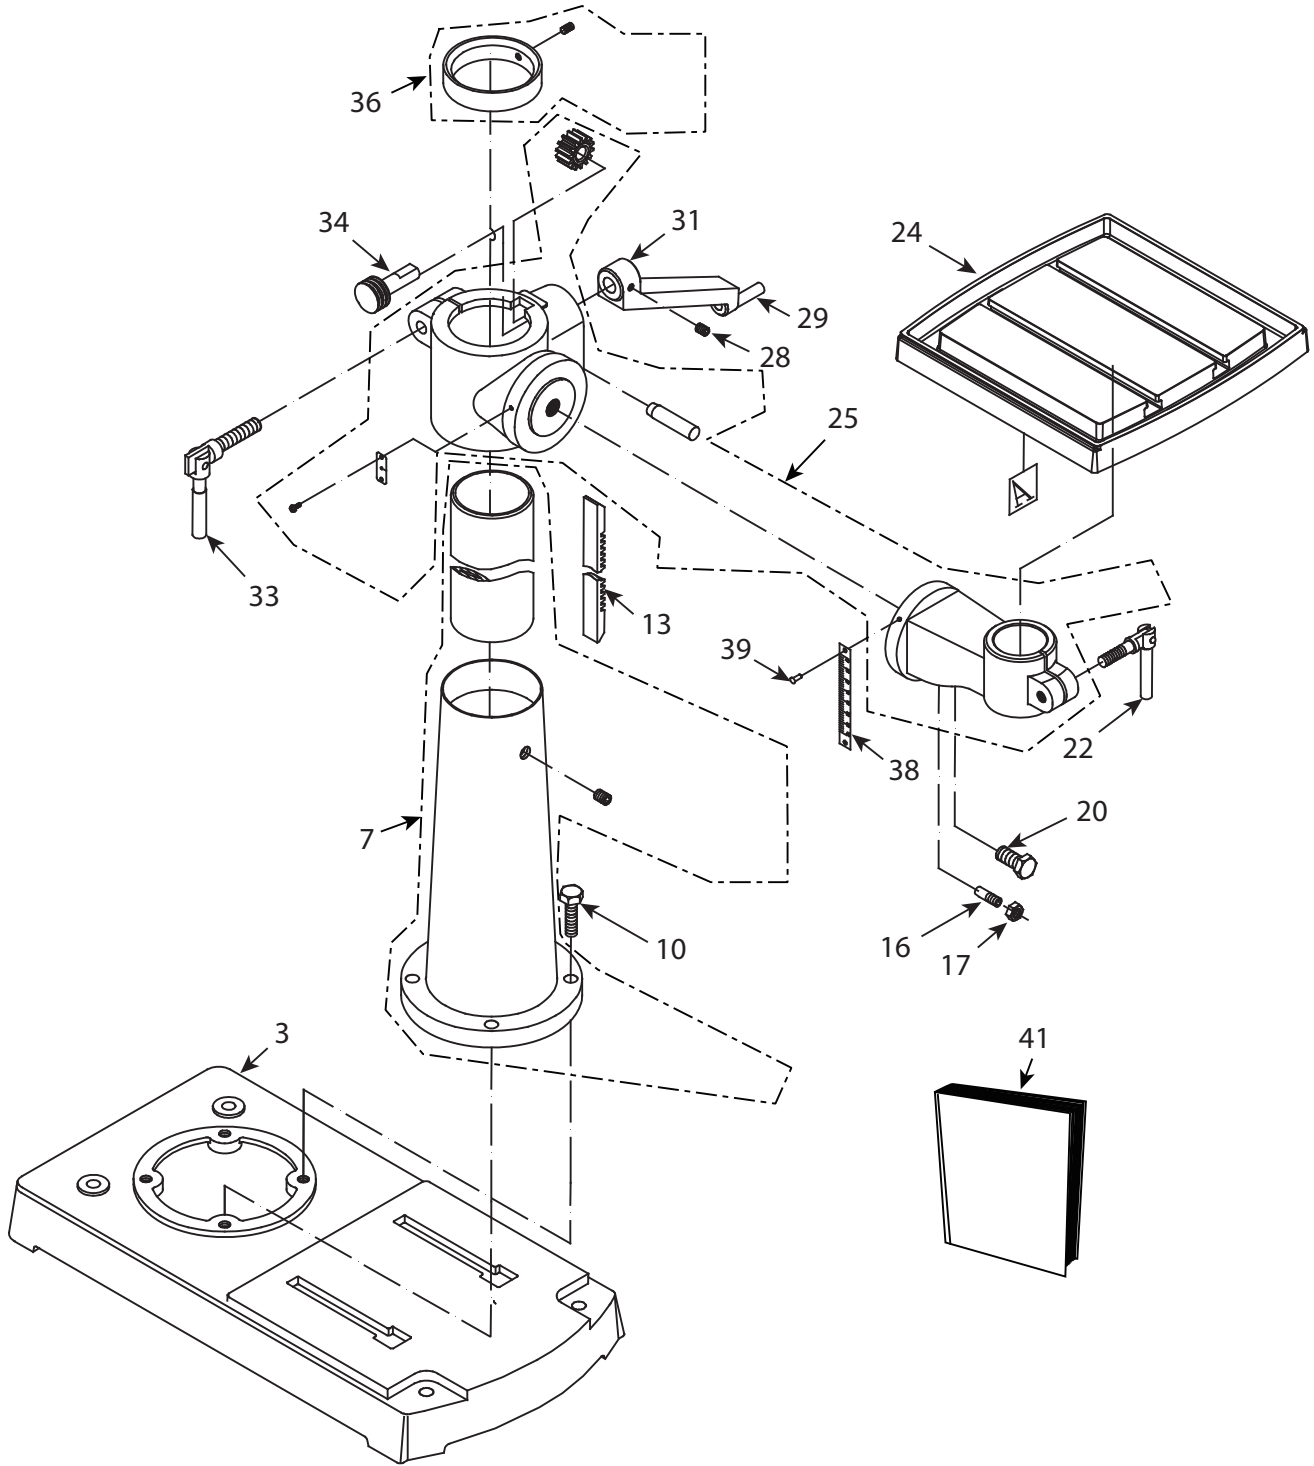

Figure 7 - Replacement Parts Illustration for Base (Single & Three Phase)
Refer to Figure 7.
Refer to Figures 7 and 8.
- Apply lubricant to rack and pinion gear (Figure 7, Ref. Nos. 13 & 34) on column and table assembly.